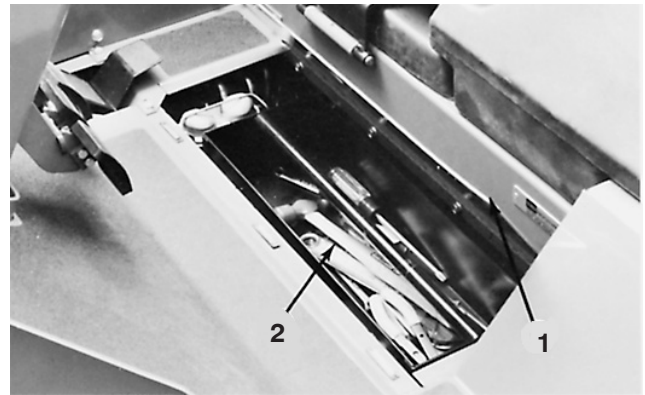

Figure 58
- Raise floor panel in front of seat (Fig. 58). Remove tool tray.
2. Remove deck tilt link from tool box under traction unit floor (Fig. 58) and klik pins from weldments on traction unit frame and cutting unit lift arm.